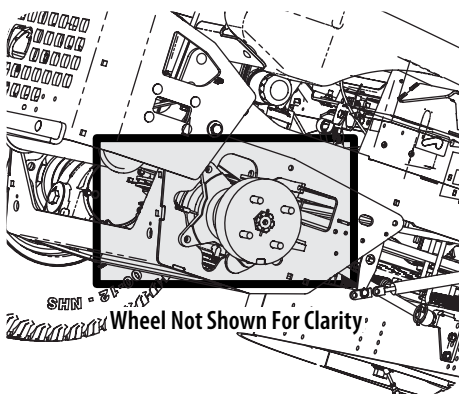

Figure 4-16
- Clean around and near the transmission, axle and the fan area. See Figure 4-16.